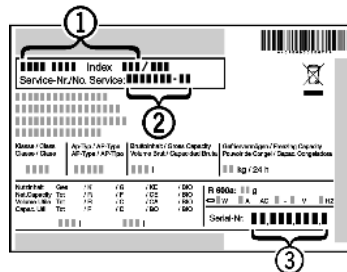

Fig. 13
- ▶ Read the appliance designation *Fig. 13 (1)*, service No. *Fig. 13 (2)* and serial No. *Fig. 13 (3)* off the type plate located inside the appliance on the left-hand side.
- ▶ Notify the customer service, specifying the fault, appliance designation *Fig. 13 (1)*, service No. *Fig. 13 (2)* and serial No. *Fig. 13 (3)*.